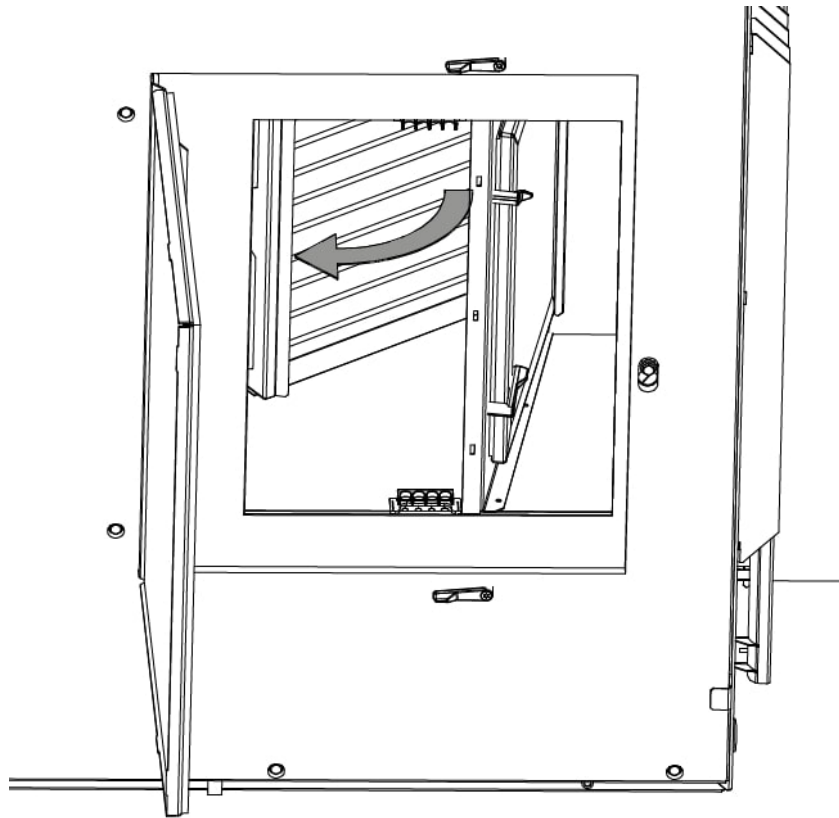

Figure 14: Open the hinge that keeps the fine filter in place
6. Open the hinge that keeps the fine filter in place, see Figure 14 below.